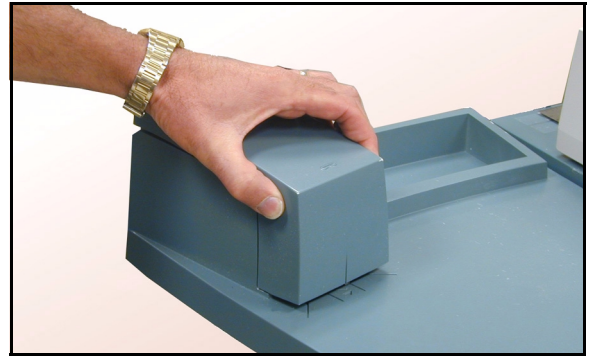

Figure 10: Opening the stapler
- 1 Open the stapler by grasping the cover at the two indentations on the upper right and left side and pulling it straight up and back (Figure 10).